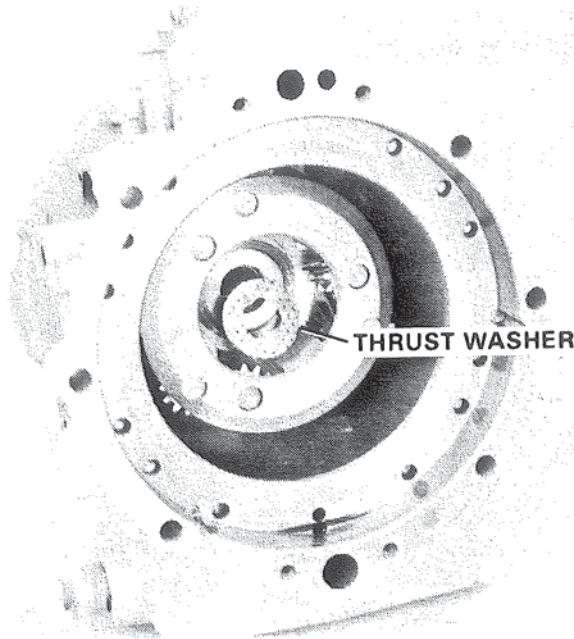

Figure 22. Removing Thrust Washer.
2. Remove thrust washer located between drive gear and planetary carrier. Figure 22.